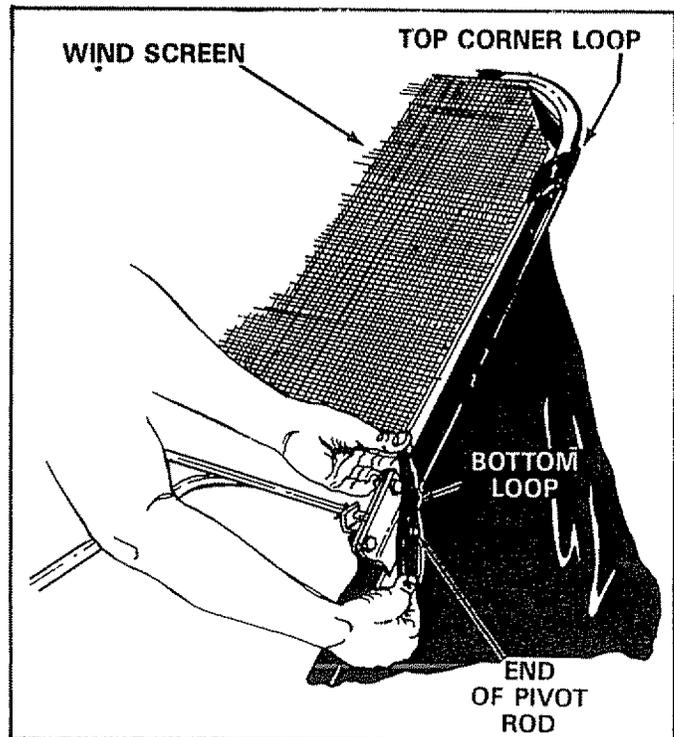

FIGURE 24
16. Assemble the wind screen over the top of hopper bag frame by simply hooking the top corner loops and pull the bottom loops down over the ends of the pivot rod. See figure 24.